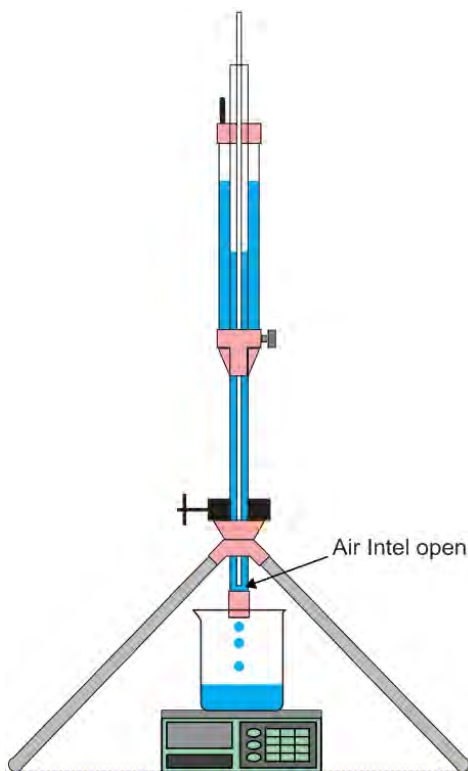

Fig. 44
**Pull up the Air Tube very slowly (Fig. 44)** to create a slow water flow out of the Water Outlet Tip and into the Beaker. If water in the Inner Reservoir falls too quickly, push the Air Tube down to decrease the rate of water fall in the Inner Reservoir.